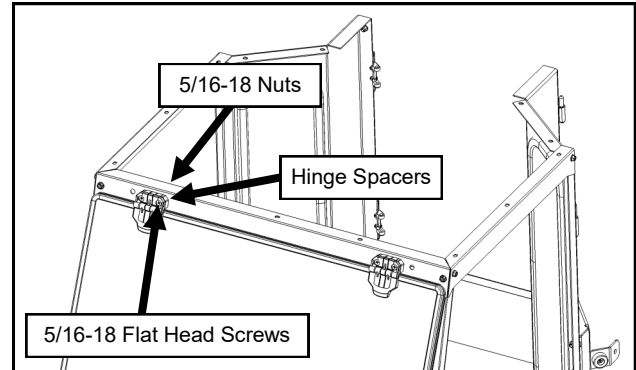

Fig. 11.1 (Attach Windshield)
11.1 With assistance, set the windshield up to the A-pillars and secure it to the roof using the hinge spacers and hardware. See Fig. 11.1. Leave hardware loose.